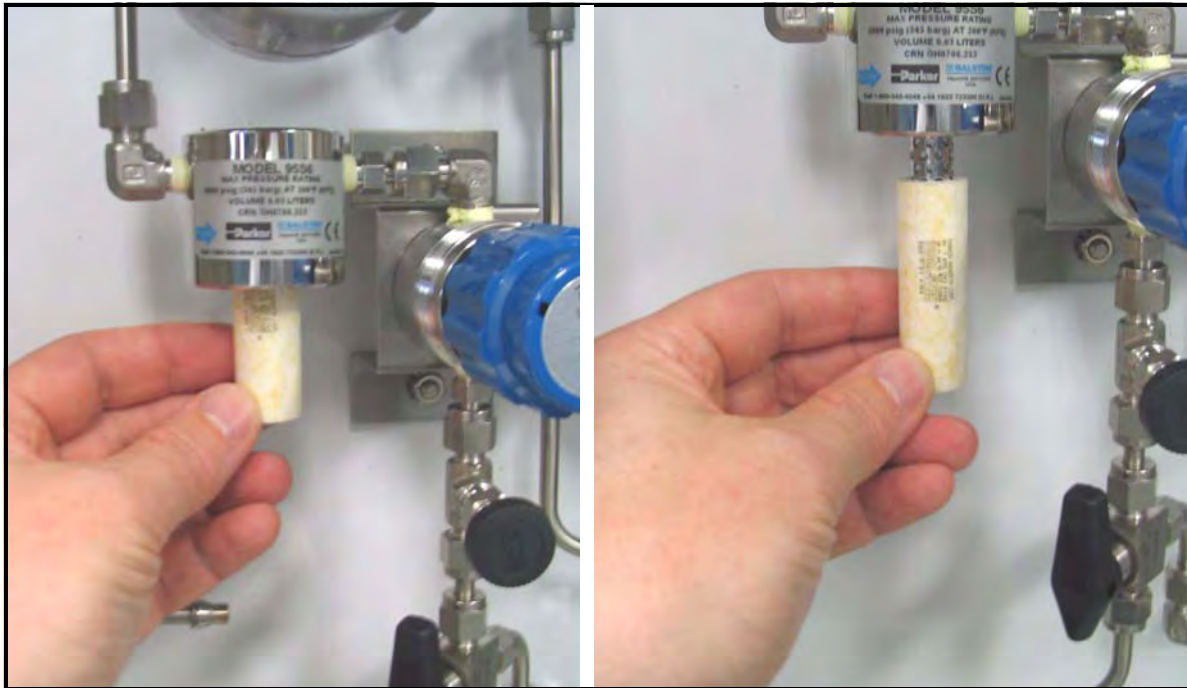

Figure 83: Removing the Coalescer/Filter Element
5. Remove the old coalescer/filter element (see Figure 83).